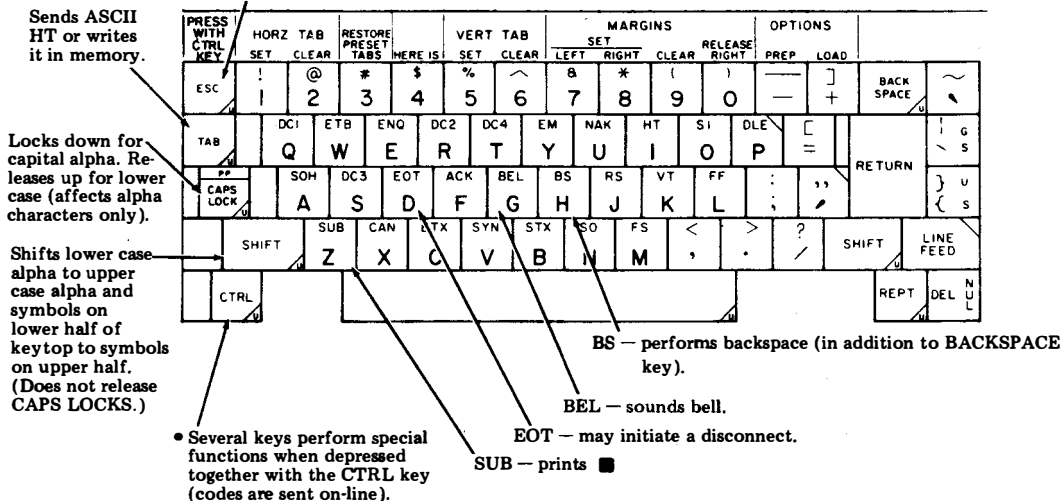

Fig. 6—Basic Keyboard Layout
4.03 The basic keyboard layout is shown in Fig. 6 along with brief descriptions on the keyboard printer operation of several special keys.